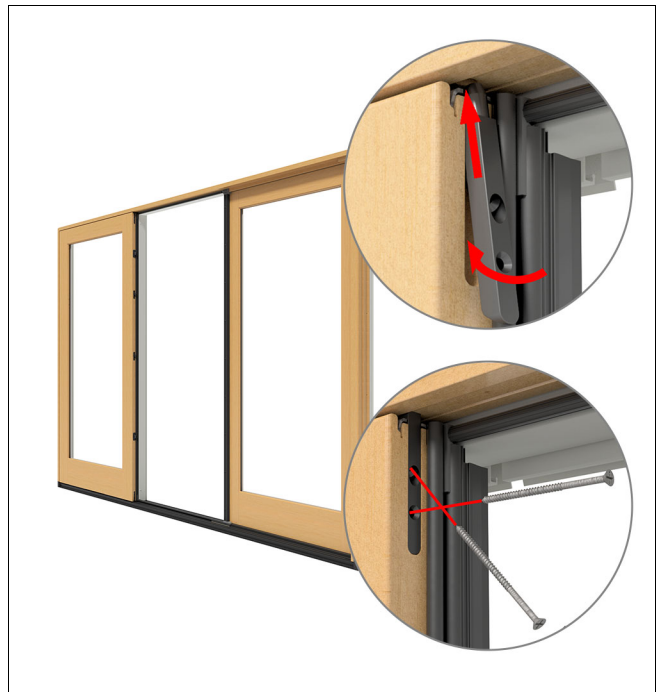

Figure 41
14. Install the end of the stationary bolt into the head jamb plate. Slide the bolt into place and fasten to the stationary panel with the two #8 x 3" screws. Note that the top screw is installed at an angle. See Figure 41.